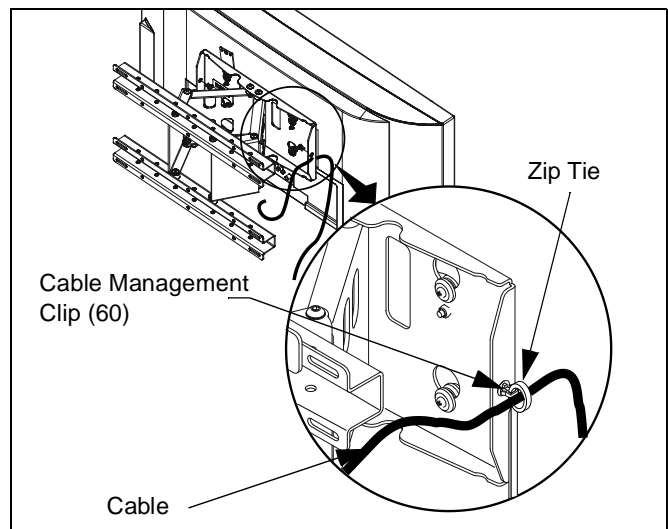

Figure 10: Cable Routing
1. Zip tie cable to cable clip (60). (See Figure 10)